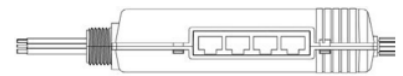

Figure 2
5. Connect the control devices (e.g. occupancy sensors, daylight sensor and switches) to any of the RJ45 ports available using a UTP patch cord. Similar devices (e.g. switches or occupancy sensors) may be connected together from the same RJ45 port. (See Figure 2)